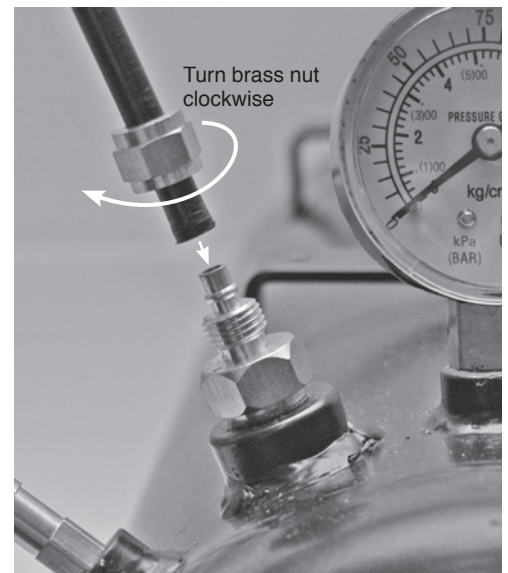

Fig. 4 Connecting the high-pressure plastic hose
HOSE INSTALLATION (Fig. 3 and Fig. 4):
8. Using the high-pressure plastic hose provided, cut to size to be able to connect the tank to inlet fitting of the accessory or valve requiring high-pressure air. Place the brass nut from the tank's outlet fitting onto the high-pressure plastic hose. Push the plastic hose fully onto the outlet fitting, tighten the brass nut onto the outlet fitting. (Fig. 4 and 5)